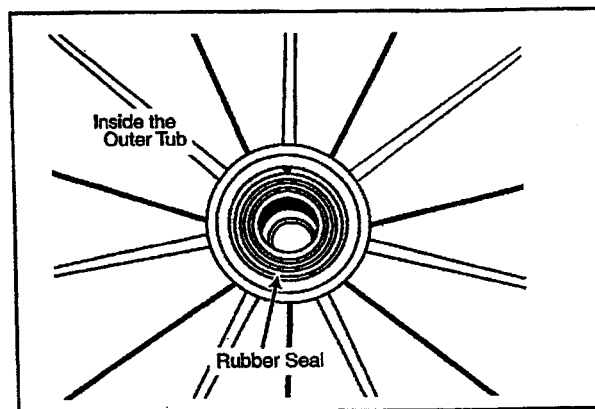

Figure 2-48
7. Remove the shaft seal (*Figure 2-48*).
4. Reach into the inside of the outer tub bearing area and remove the rubber seal. Discard both the steel seal washer and the rubber seal (Figure 2-48).